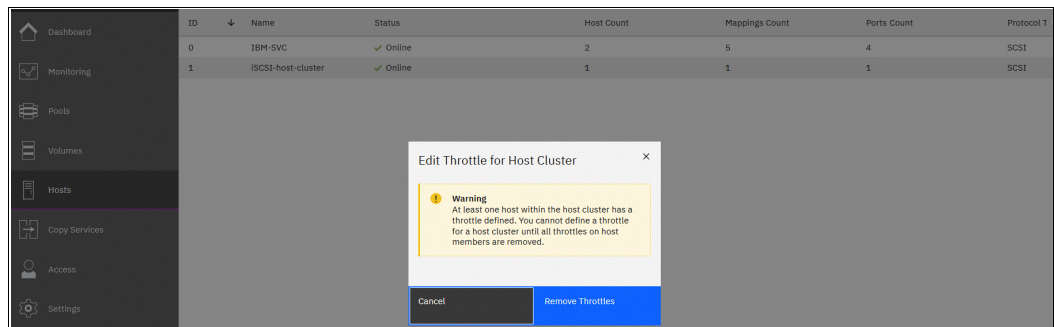

Figure 7-67 Warning that host throttles exist
2. If any of the hosts in the cluster include defined individual throttles, those throttles must be removed or a warning appears (see Figure 7-67). Click **Remove Throttles**, or click **Cancel** to leave the individual throttles and stop the host throttle creation process.